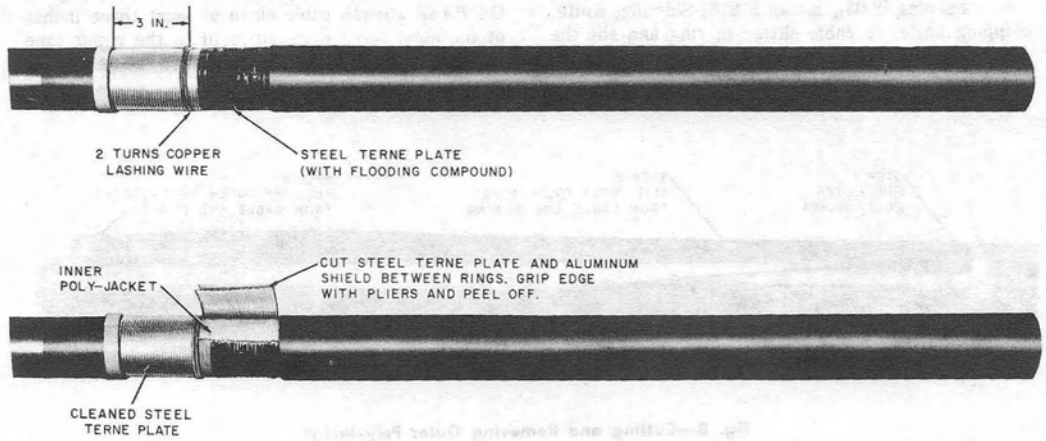

Fig. 5—Cutting and Removing Metal Shields on PASP Sheath
*sheath* cable clean at least three inches of the steel terne plate adjacent to the paper tape marker with B Cleaning Fluid and a clean rag. Place a collar of two turns of copper lashing wire around the clean terne plate three inches from the sheath opening marker toward the cable end. Cut and remove the terne plate and aluminum shield as shown in Fig. 5.